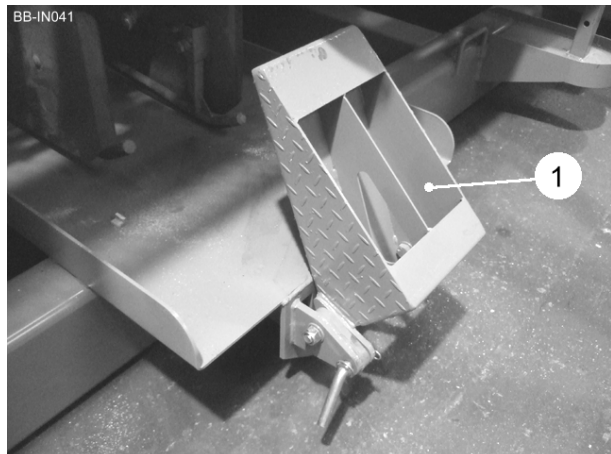
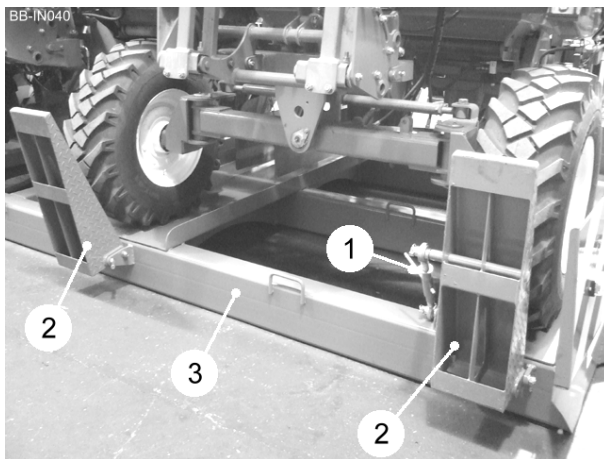
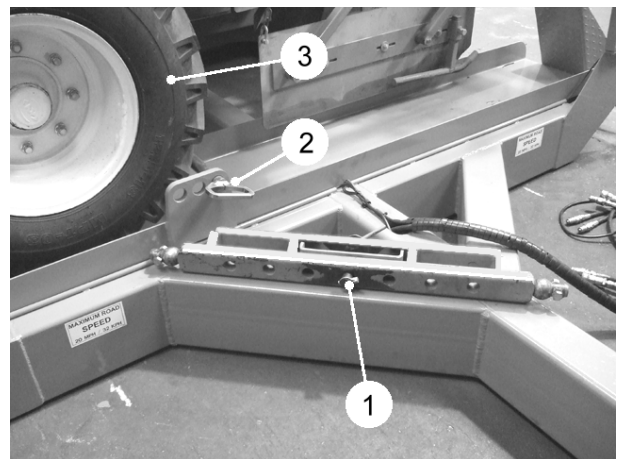

Fig 2
Fig 3
Fig 4
5. Lower the four unloading ramps (item 1, fig 2) on the LH side of the trailer.
7. Attach the loading/unloading tow bar (item 1, fig 4) to the tractor lift arms.
9. Loosen the outer loading ramp adjustable links (item 1, fig 3) and remove the wheel lock-down pins (item 2, fig 4).
12. Finally, refit the wheel lock-down pins (item 2, fig 4) ready for loading.
1. Lower the loading ramps (item 2, fig 3) and unloading ramps (item 1, fig 2).
2. Attach the loading/unloading tow bar (item 1, fig 4) to the tractor lift arms.
4. Approaching at a right angle from the RH side of the trailer, align the tractor wheels and planter wheels with the loading ramps (item 2, fig 3).
5. Raise the front of the planter slightly to allow the openers to clear the trailer side beam (item 3, fig 3).
6. Drive the tractor and planter over the trailer until the outer planter wheels (item 3, fig 4) touch the lock-down pins (item 2, fig 4).
7. Raise the two outer loading ramps (item 2, fig 3) and secure with the adjustable links (item 1, fig 3).
8. Adjust the links (item 1, fig 3) to prevent the planter wheels from rolling backward or forwards.
13. Raise the loading ramps (item 2, fig 3) and unloading ramps (item 1, fig 2) and secure with the locking pins and 'R' Clips.